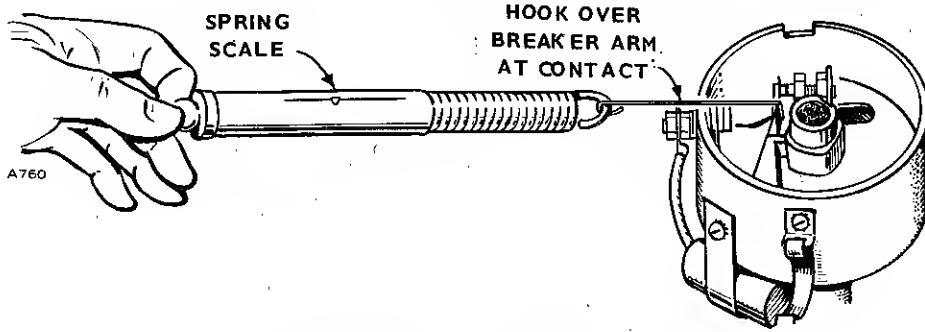

FIGURE 42. MEASURING POINT TENSION
Using a spring scale (Fig. 42), measure the tension of the points as they break contact. Tension should be 17 to 20 ounces. If it is greater, it causes excess wear; if less it
- Check the tension of the breaker spring with a spring scale hooked on the arm at the contact and held at right angles to the contact surfaces (Fig. 42). Tension should be 17 to 20 oz. Adjust it by loosening the screw holding the end of the contact spring and installing spacing washers or sliding the end of the spring in or out.